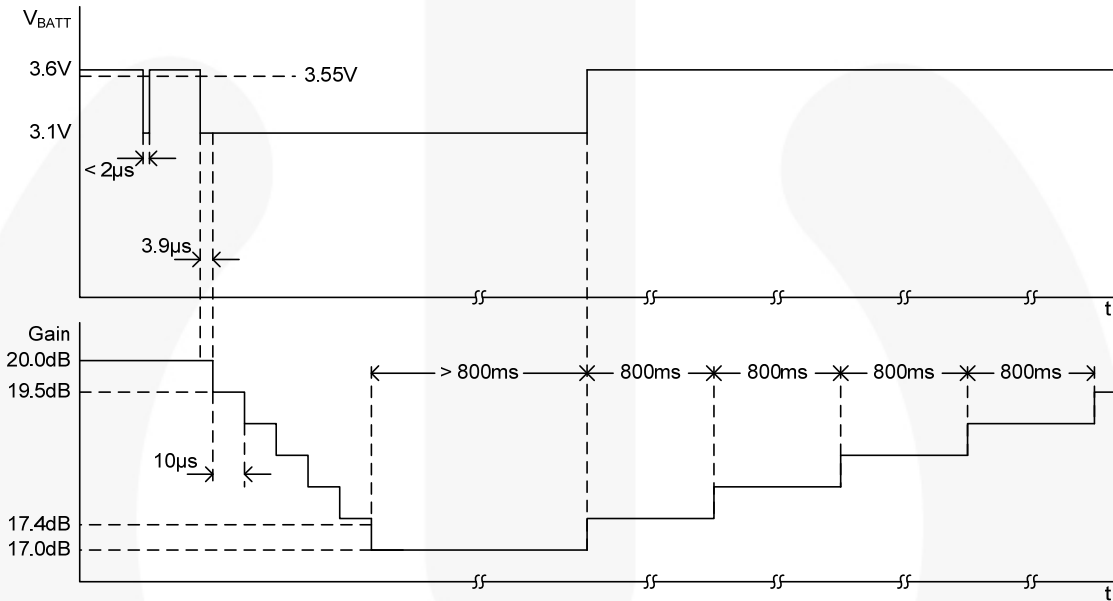
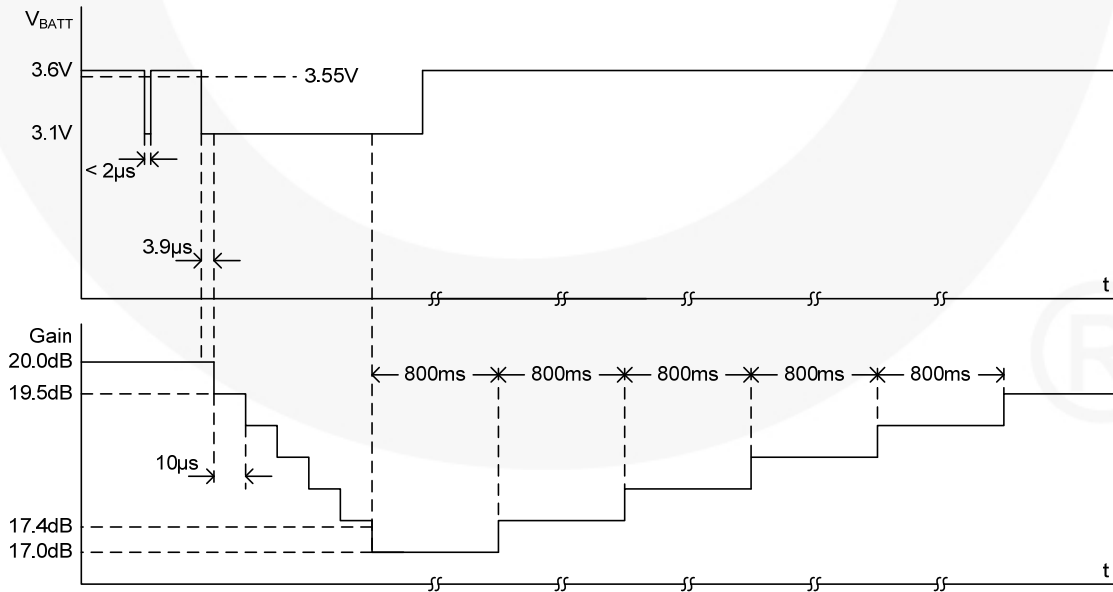

Figure 14. AGC Changes vs. Time, Example 1
Figure 15. AGC Changes vs. Time, Example 2
Figure 14 and Figure 15 show examples of AGC changes over time. In these examples, AGCT is grounded, so the AGC trip point is 3.55V.
6. When  $V_{BATT}$  rises above the trip point, gain increases by 0.5dB. If more than 800ms has passed since the last gain change, gain rises immediately, as shown in Figure 14. Otherwise, gain does not rise until after 800ms has passed, as shown in Figure 15.